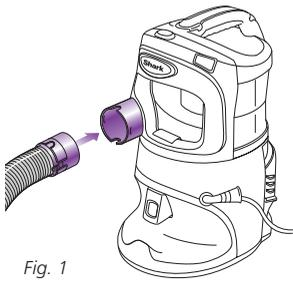

Fig. 1
- 1 Insert the end of the flexible hose into the connector on the front of the *Lift-Around™* Canister Vac. (**fig. 1**)